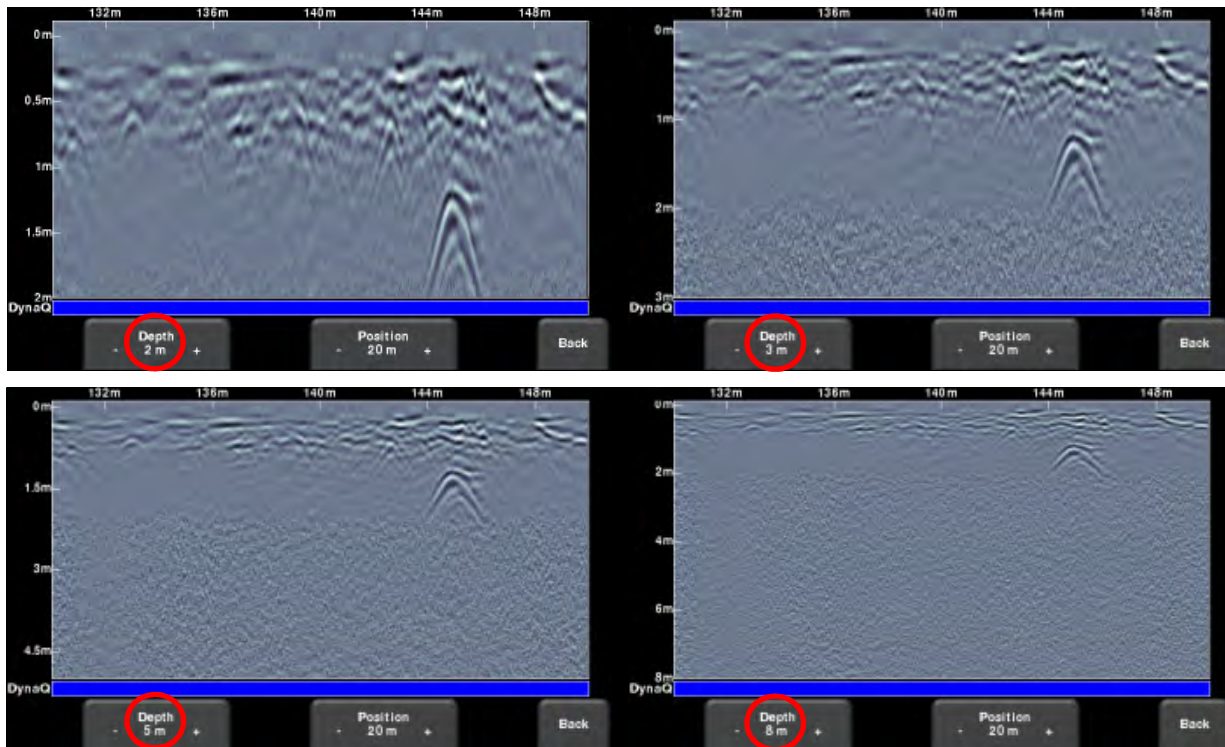

Figure 6-7: Varying displayed depth
- **Depth** – Pressing **+** and **-** under the **Depth** button allows you to change the display depth of the data. This is commonly referred to as the depth window. The pre-set values range from 1m to 8m (3' to 25'), see Figure 6-7.